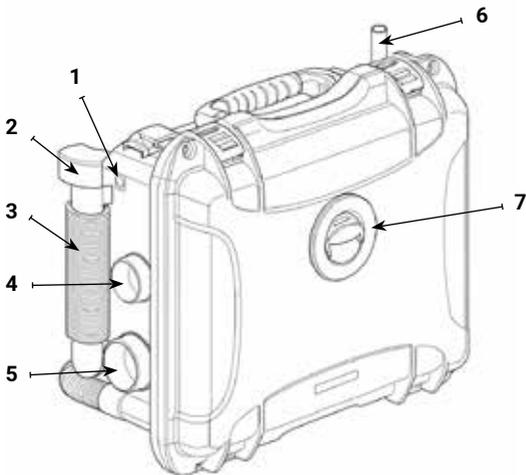

Fig. 1-1
- Attach the hot air hose to the air outlet of the heater (Fig. 1.1).